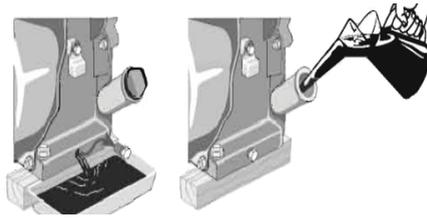

Fig 9.
**WARNING!** The engine oil should be changed after the first 20 hours of operation of the new engine. The fill cap and drain hole are shown in Figure 9.